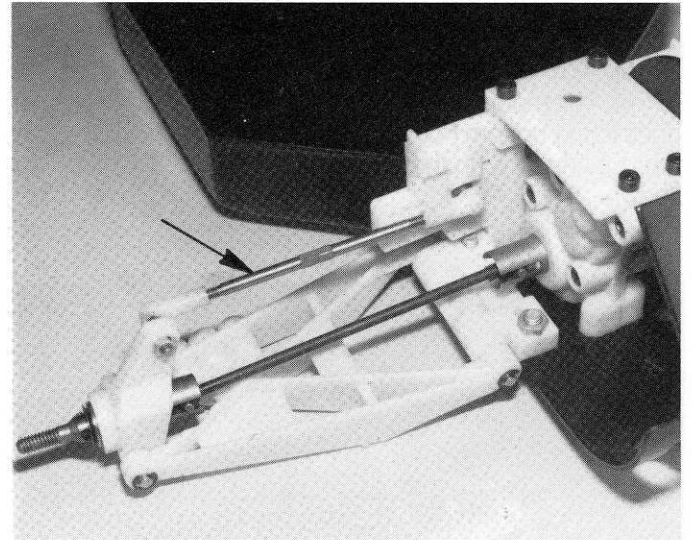

Fig. 101
□ **Fig. 101** Using a pliers, snap the ball ends in place, as shown. Do the right hand side.